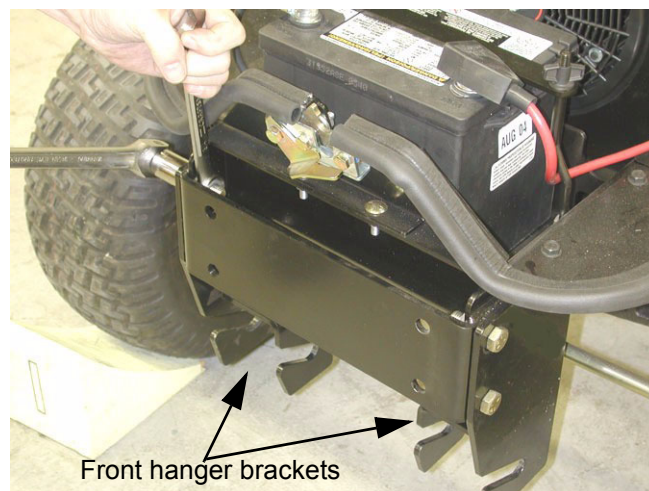

Figure 1.10
- 1.10. Attach the front hanger brackets (left and right) to the front corners of the frame. They should be oriented so that the the box sections are on the inside of the brackets, and the slots on the front. Tighten the bolts to 70-80 ft.-lbs. using a pair of 3/4" wrenches. See Figure 1.10.